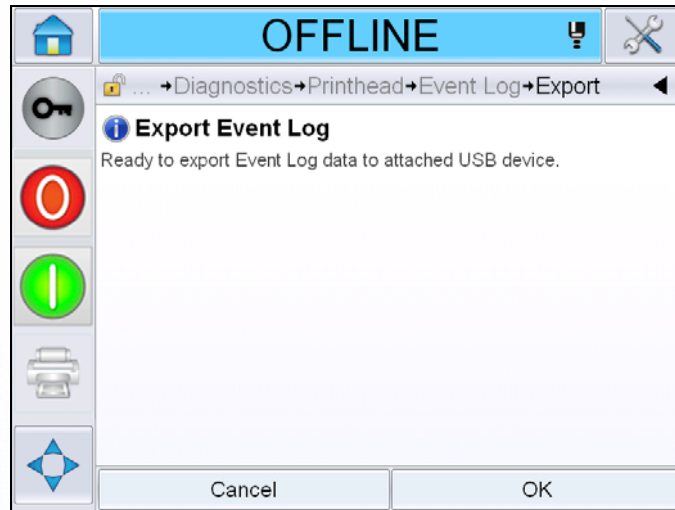

Figure 6-12: Export Event Log Confirmation
- c. Confirmation page will be displayed (see Figure 6-12).